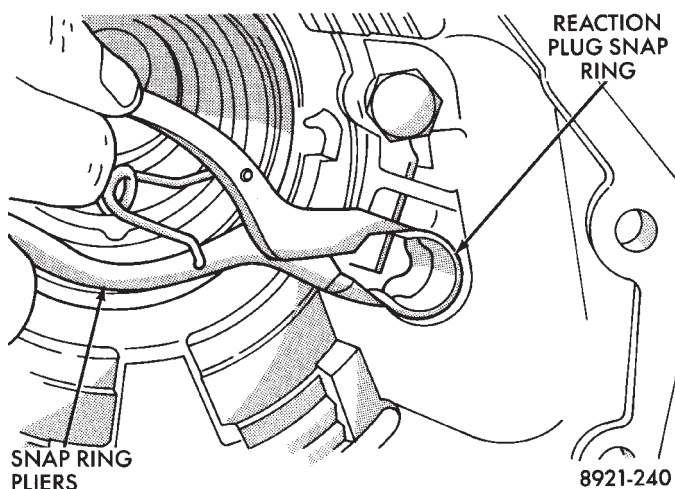

Fig. 57 Reaction Plug And Snap Ring Installation
(4) Install reaction plug snap ring (Fig. 57). **Compress snap ring only enough for installation; do not distort it.**